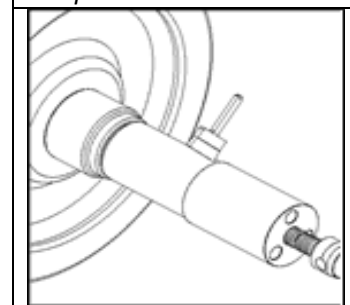

Figure 20 – Lubricate Bearing Seats
- 5.3.3 Coat the bearing seats of the axle with castor oil, heavy mineral oil, a MOLYKOTE™ and oil mixture, or as directed by the bearing manufacturer (Figure 20).